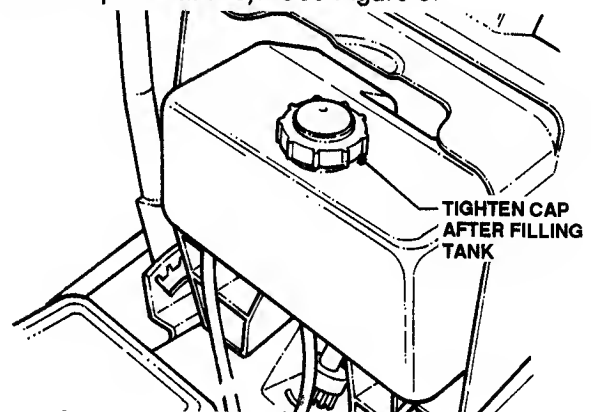

FIGURE 5
- ADD FUEL to tank after pushing the mower outside where fumes can be dissipated. Make sure cap is tightened after refueling. (Refer to Engine Manual for fuel specifications). See Figure 5.